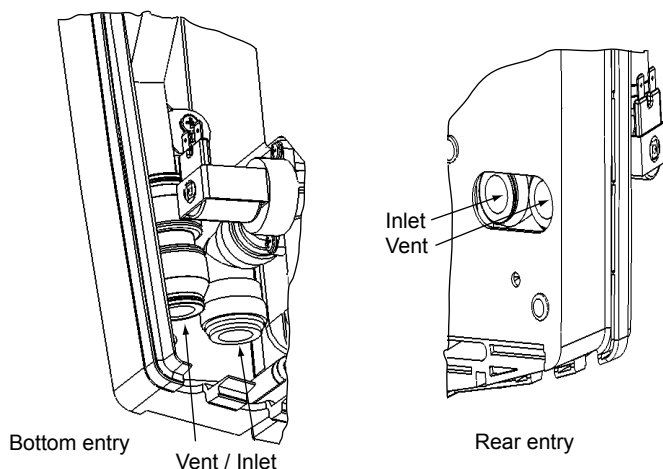

Figure 2
- 4.6 Push fit connectors are supplied to allow either bottom or rear entry of services (see figure 2). If a combination of entry points are required an additional connector will be required as follows: